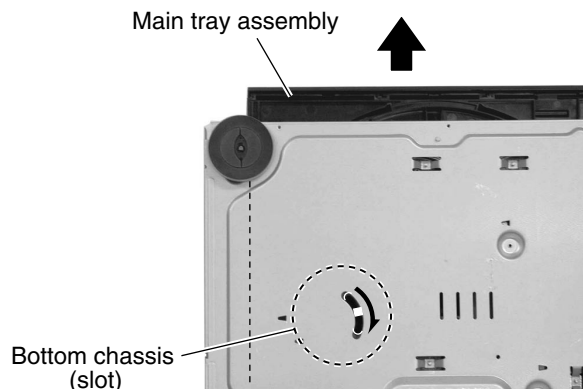

Fig.4
■ Removing the main tray assembly (See Fig.4 to 7)
1. Turn over the body and insert a screwdriver into the slot of the bottom chassis, then move it in the direction of the arrow in Fig.4. The main tray assembly will move forward.